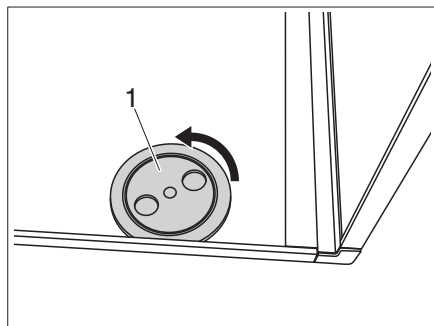

Fig. 26 Remove the covers
- Screw the covers (Fig. 26,1) left and right on the fastenings.